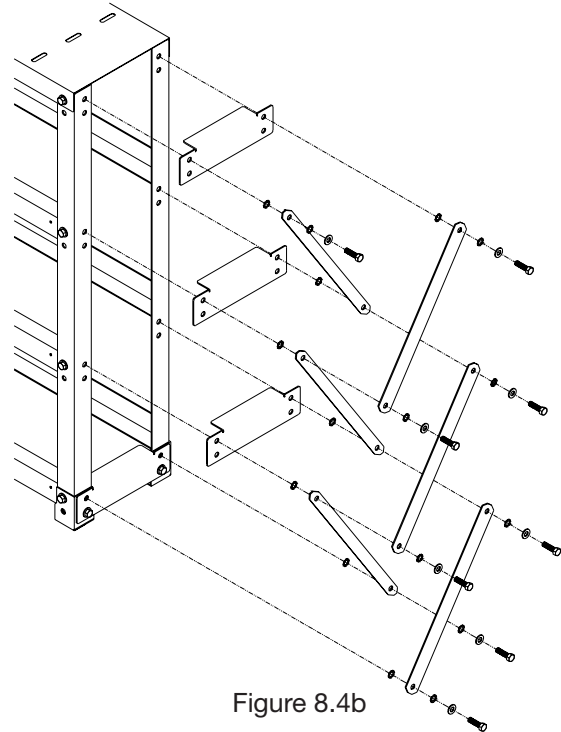

Figure 8.4b
- Working up the rack, install the side supports and side cross braces per Figures 8.4b and 8.4c.